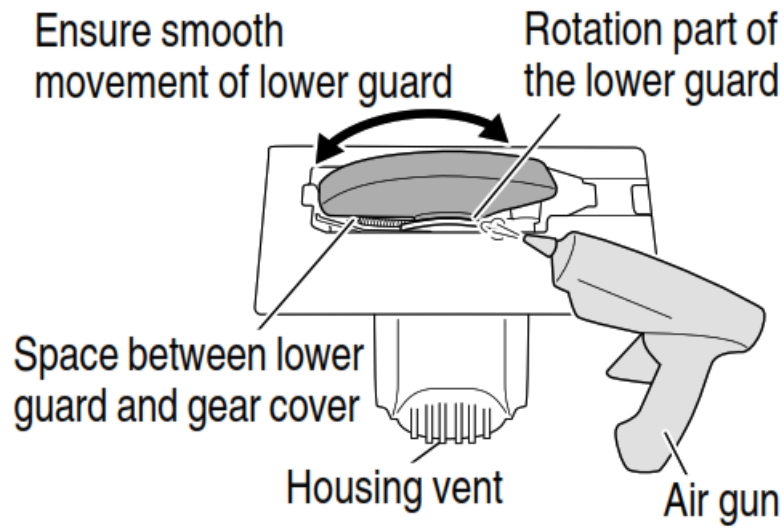

Fig. 18
7. **Motor unit maintenance** The motor winding is an important part of this tool. Avoid damaging and be careful to avoid contact with cleaning oil or water. After 50 hours of use, clean the motor by blowing into the ventilation holes of the motor housing with dry air from an air gun or other tool (Fig. 18). Dust or particle accumulation in the motor can result in damage.
8. **Inspecting and maintaining the lower guard** Always make sure that the lower guard moves smoothly. In the event of any malfunction, immediately repair the lower guard. For cleaning and maintenance, use an air gun or other tool to blow clean the space between the lower guard and gear cover as well as the rotation part of the lower guard with dry air (Fig. 18).